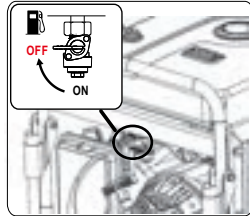

Fig 14
2. Turn the fuel valve lever back to the OFF position. (See fig 14)